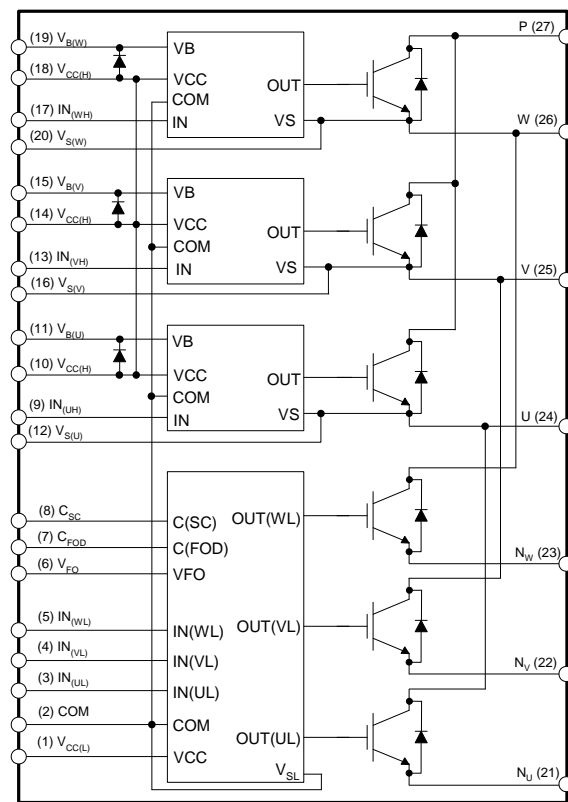

**Figure 2.**
2. For the measurement point of case temperature ( $T_C$ ), please refer to Figure 2.